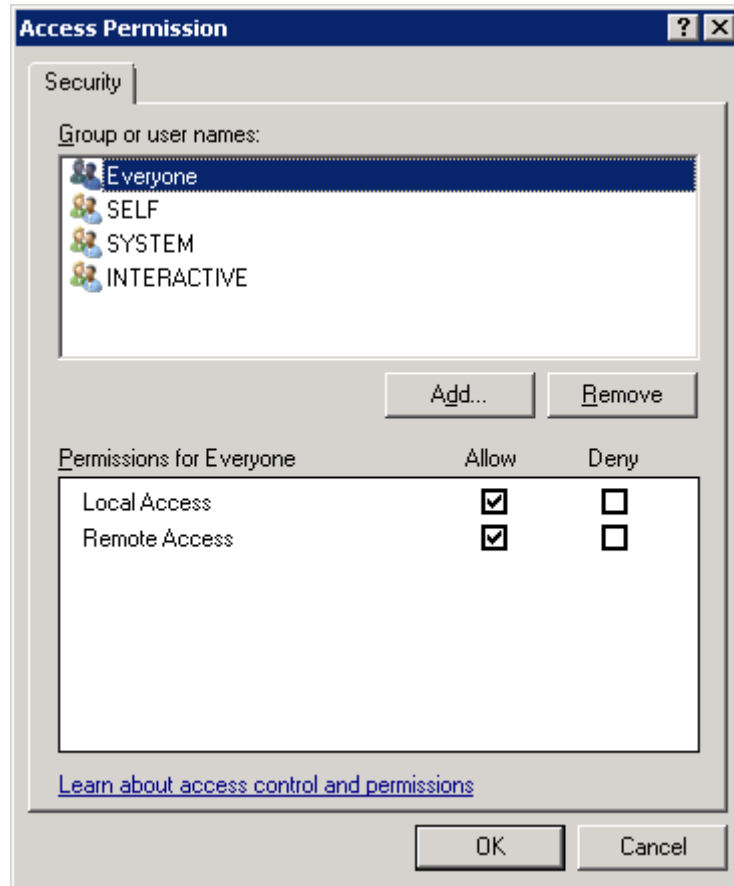

Figure 58 - Access Permissions Window
10. The **Access Permission** window (Figure 58) appears.